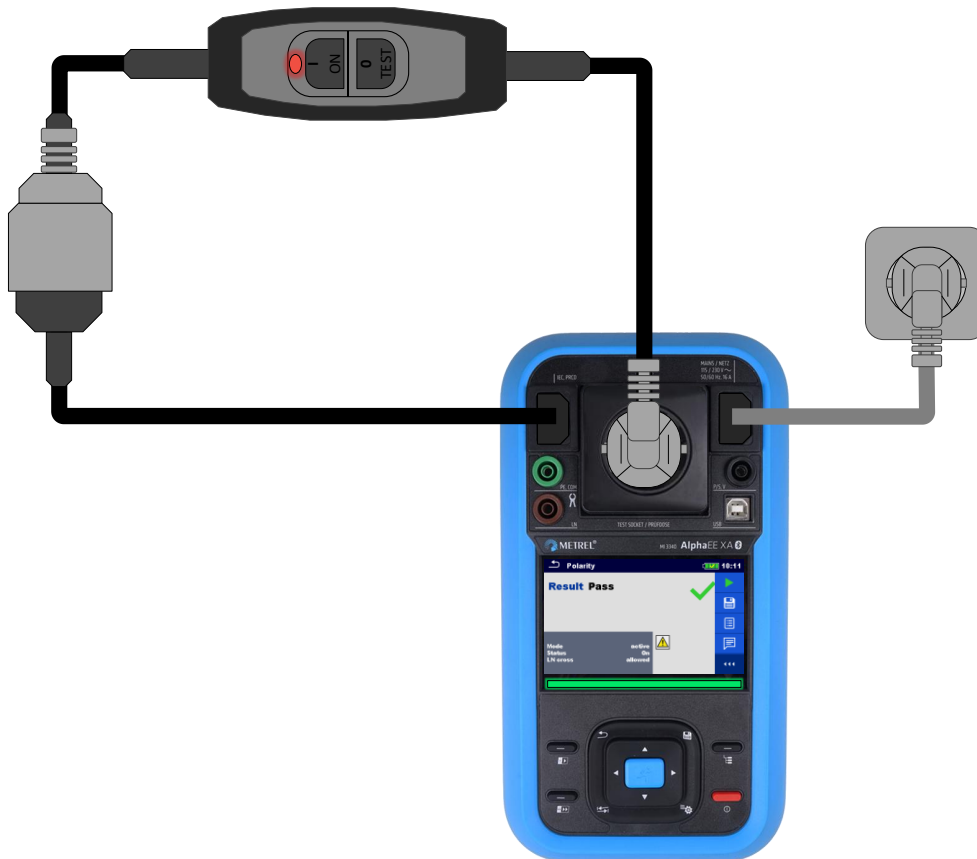

Figure 159_Polarity test
- Connect the DUT according to the connection diagram Figure 159_Polarity test,